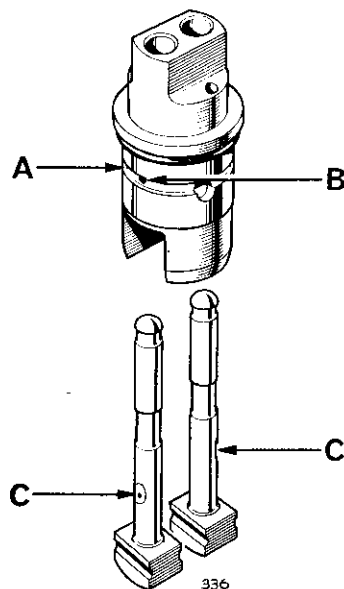

Fig. B17. Showing the correct method of assembly of the exhaust tappets
The correct method of assembly of the tappets is shown in Fig. B17. The machined cut away faces (C) should be facing the outside of the tappet guide block, i.e. the tappets must not be fitted with the cutaways facing one another, otherwise the oil holes (B) drilled in the annular groove of the tappet block (A) will not be able to supply lubricant to the tappets.